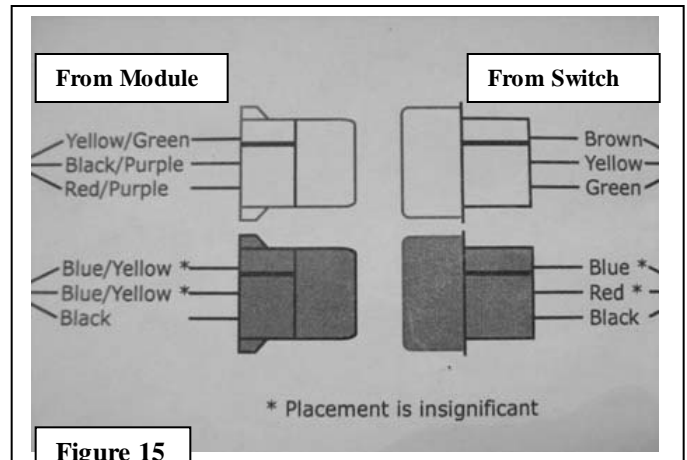

Figure 15
3. Assemble (2) 3-pin connectors from the sack parts to the mating wire colors on the **Control Switch Harness**. Use the diagram to mate the **module harness** to **switch harness**. **Figure 15**